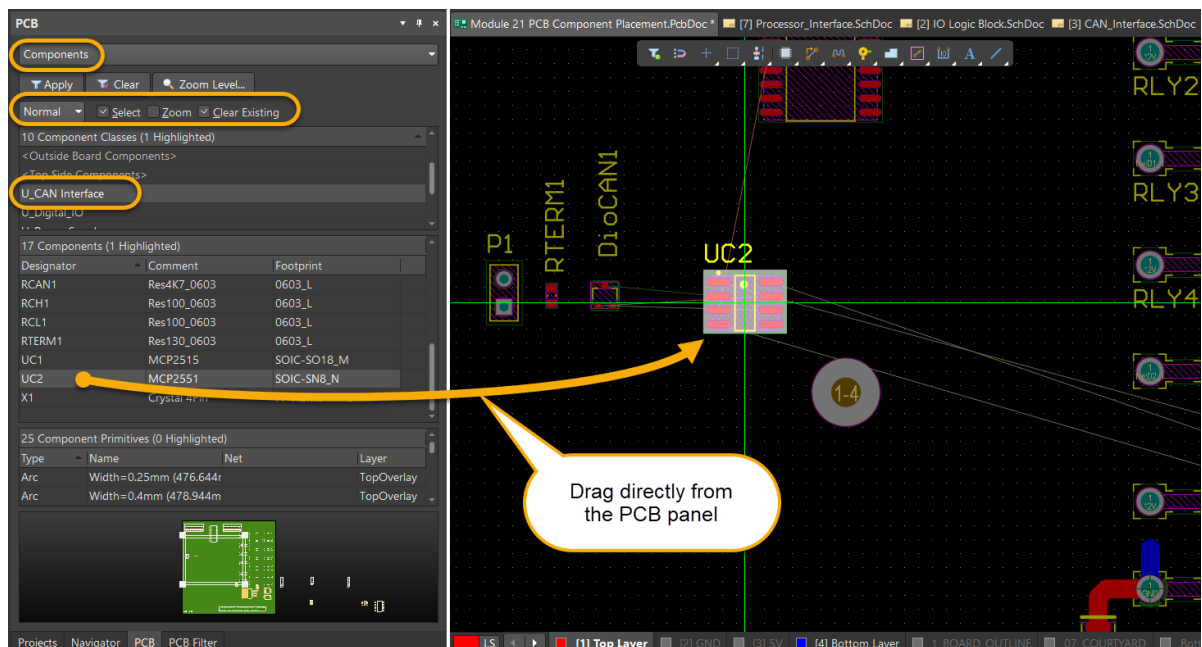

Figure 17. Placing components from the *PCB* Panel
- b) Refer to Figure 17 and the following instructions for the placement of components from the *PCB* panel: